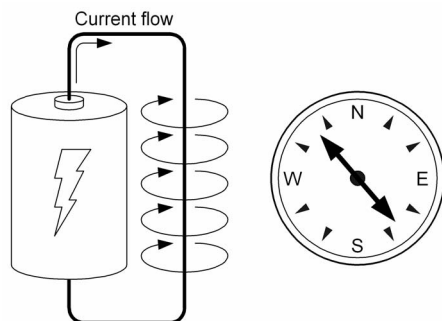

Figure 1: Static magnetic field
When you pass a direct current (DC) through a wire a *static* magnetic field develops around the wire, as shown in Fig.1. You can check this out at home with a battery, wire, and compass. Place the compass near the wire, briefly touch the ends of the wire to the battery terminals, and watch the compass needle jump. *Briefly* is the operative word, because shorting out a battery in this manner can create a large current, and quickly heat the wire and the battery.